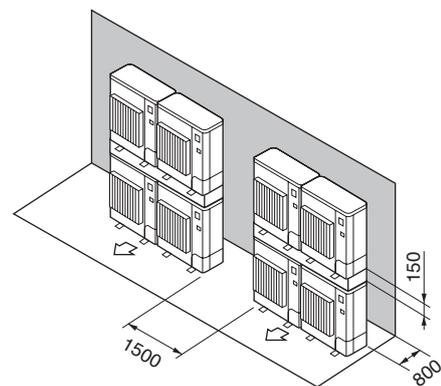

Fig. 16
(7) Stacked unit arrangement (Fig. 16)